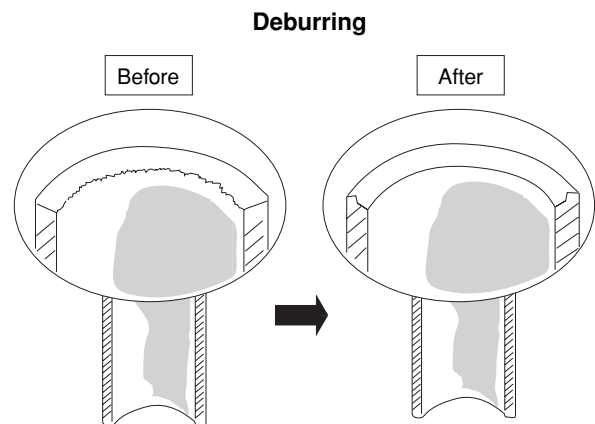

Fig. 8
- (1) Cut the copper tube to the required length with a tube cutter. It is recommended to cut approx. 12" to 20" (30 to 50 cm) longer than the tubing length you estimate.
- (2) Remove burrs at the end of the copper tube with a tube reamer or file. This process is important and should be done carefully to make a good flare. (Fig. 8)